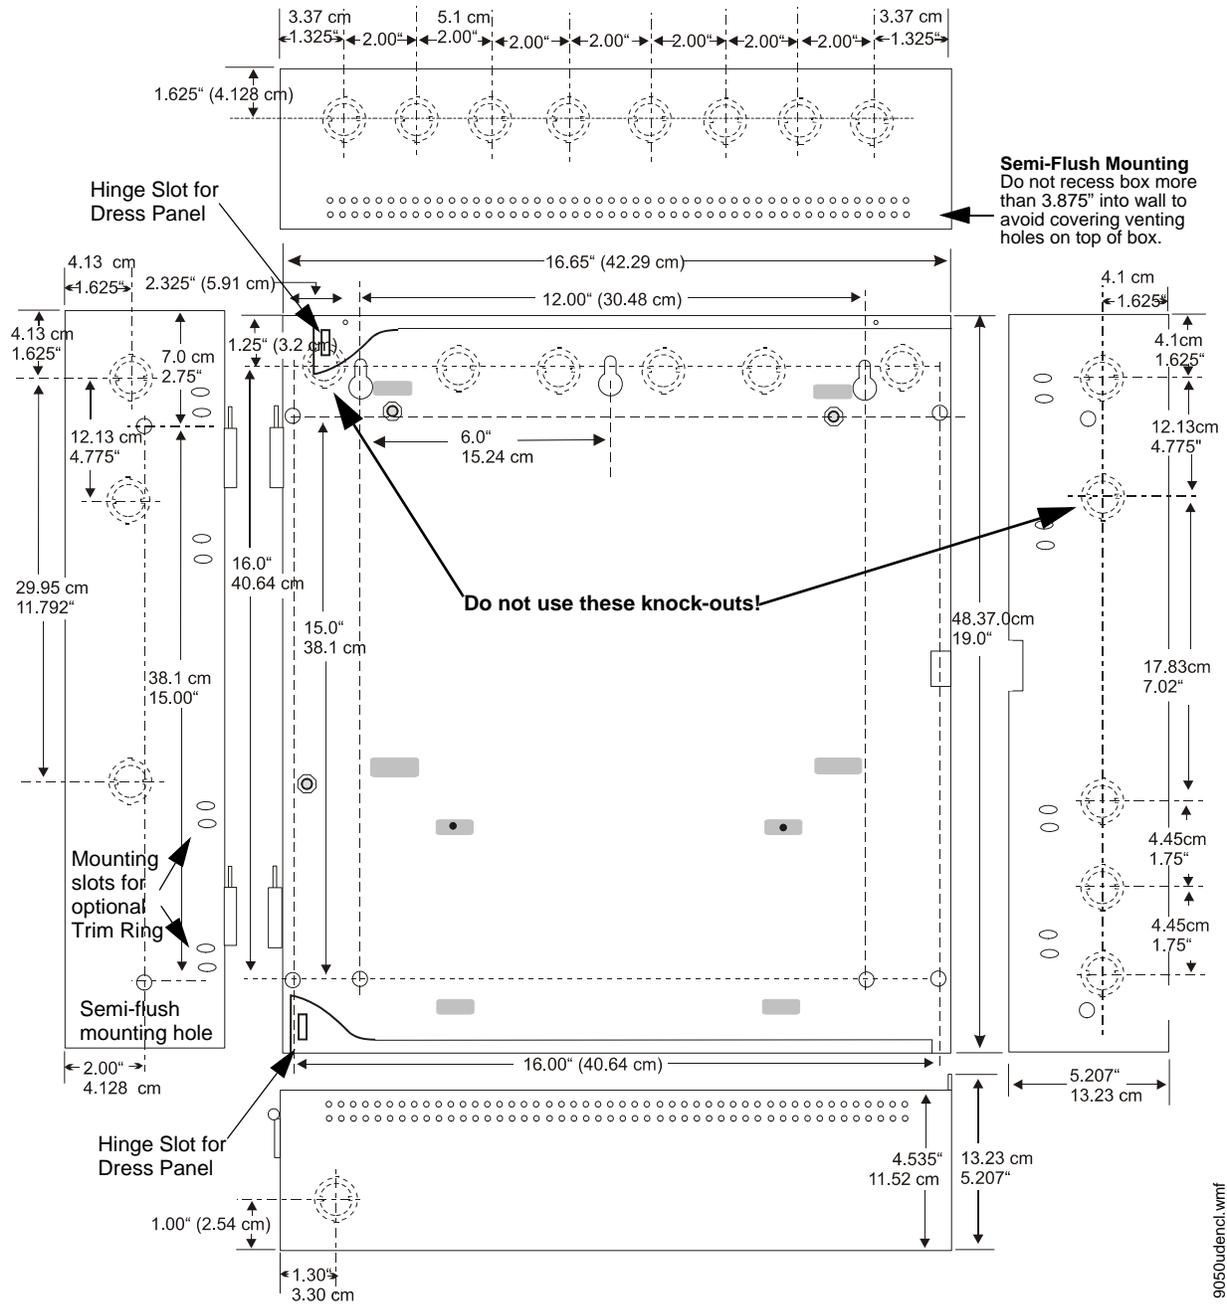

Figure 2.4 Cabinet Dimensions & Knockout Locations
Carefully unpack the system and check for shipping damage. Mount the cabinet in a clean, dry, vibration-free area where extreme temperatures are not encountered. The area should be readily accessible with sufficient room to easily install and maintain the panel. Locate the top of the cabinet approximately five feet above the floor with the hinge mounting on the left. Determine the number of conductors required for the devices to be installed. Sufficient knockouts are provided for wiring convenience. Select the appropriate knockout(s) and pull the required conductors into the box. Note that knockouts are also located on the back of the cabinet. All wiring should be in accordance with the National and/or Local codes for fire alarm systems. Refer to Figure 2.4 for knockouts that cannot be used.
1. Mark and predrill hole in the wall for the center top keyhole mounting bolt using the dimensions illustrated in Figure 2.4 on page 28.